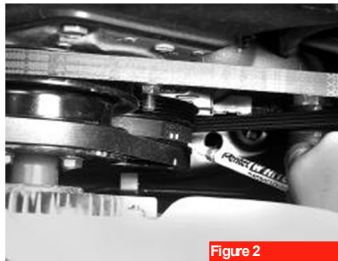

Figure 3
3. If equipped, remove the gravel guard from beneath the radiator (figure 3). This will give you access to the A/C belt adjuster.